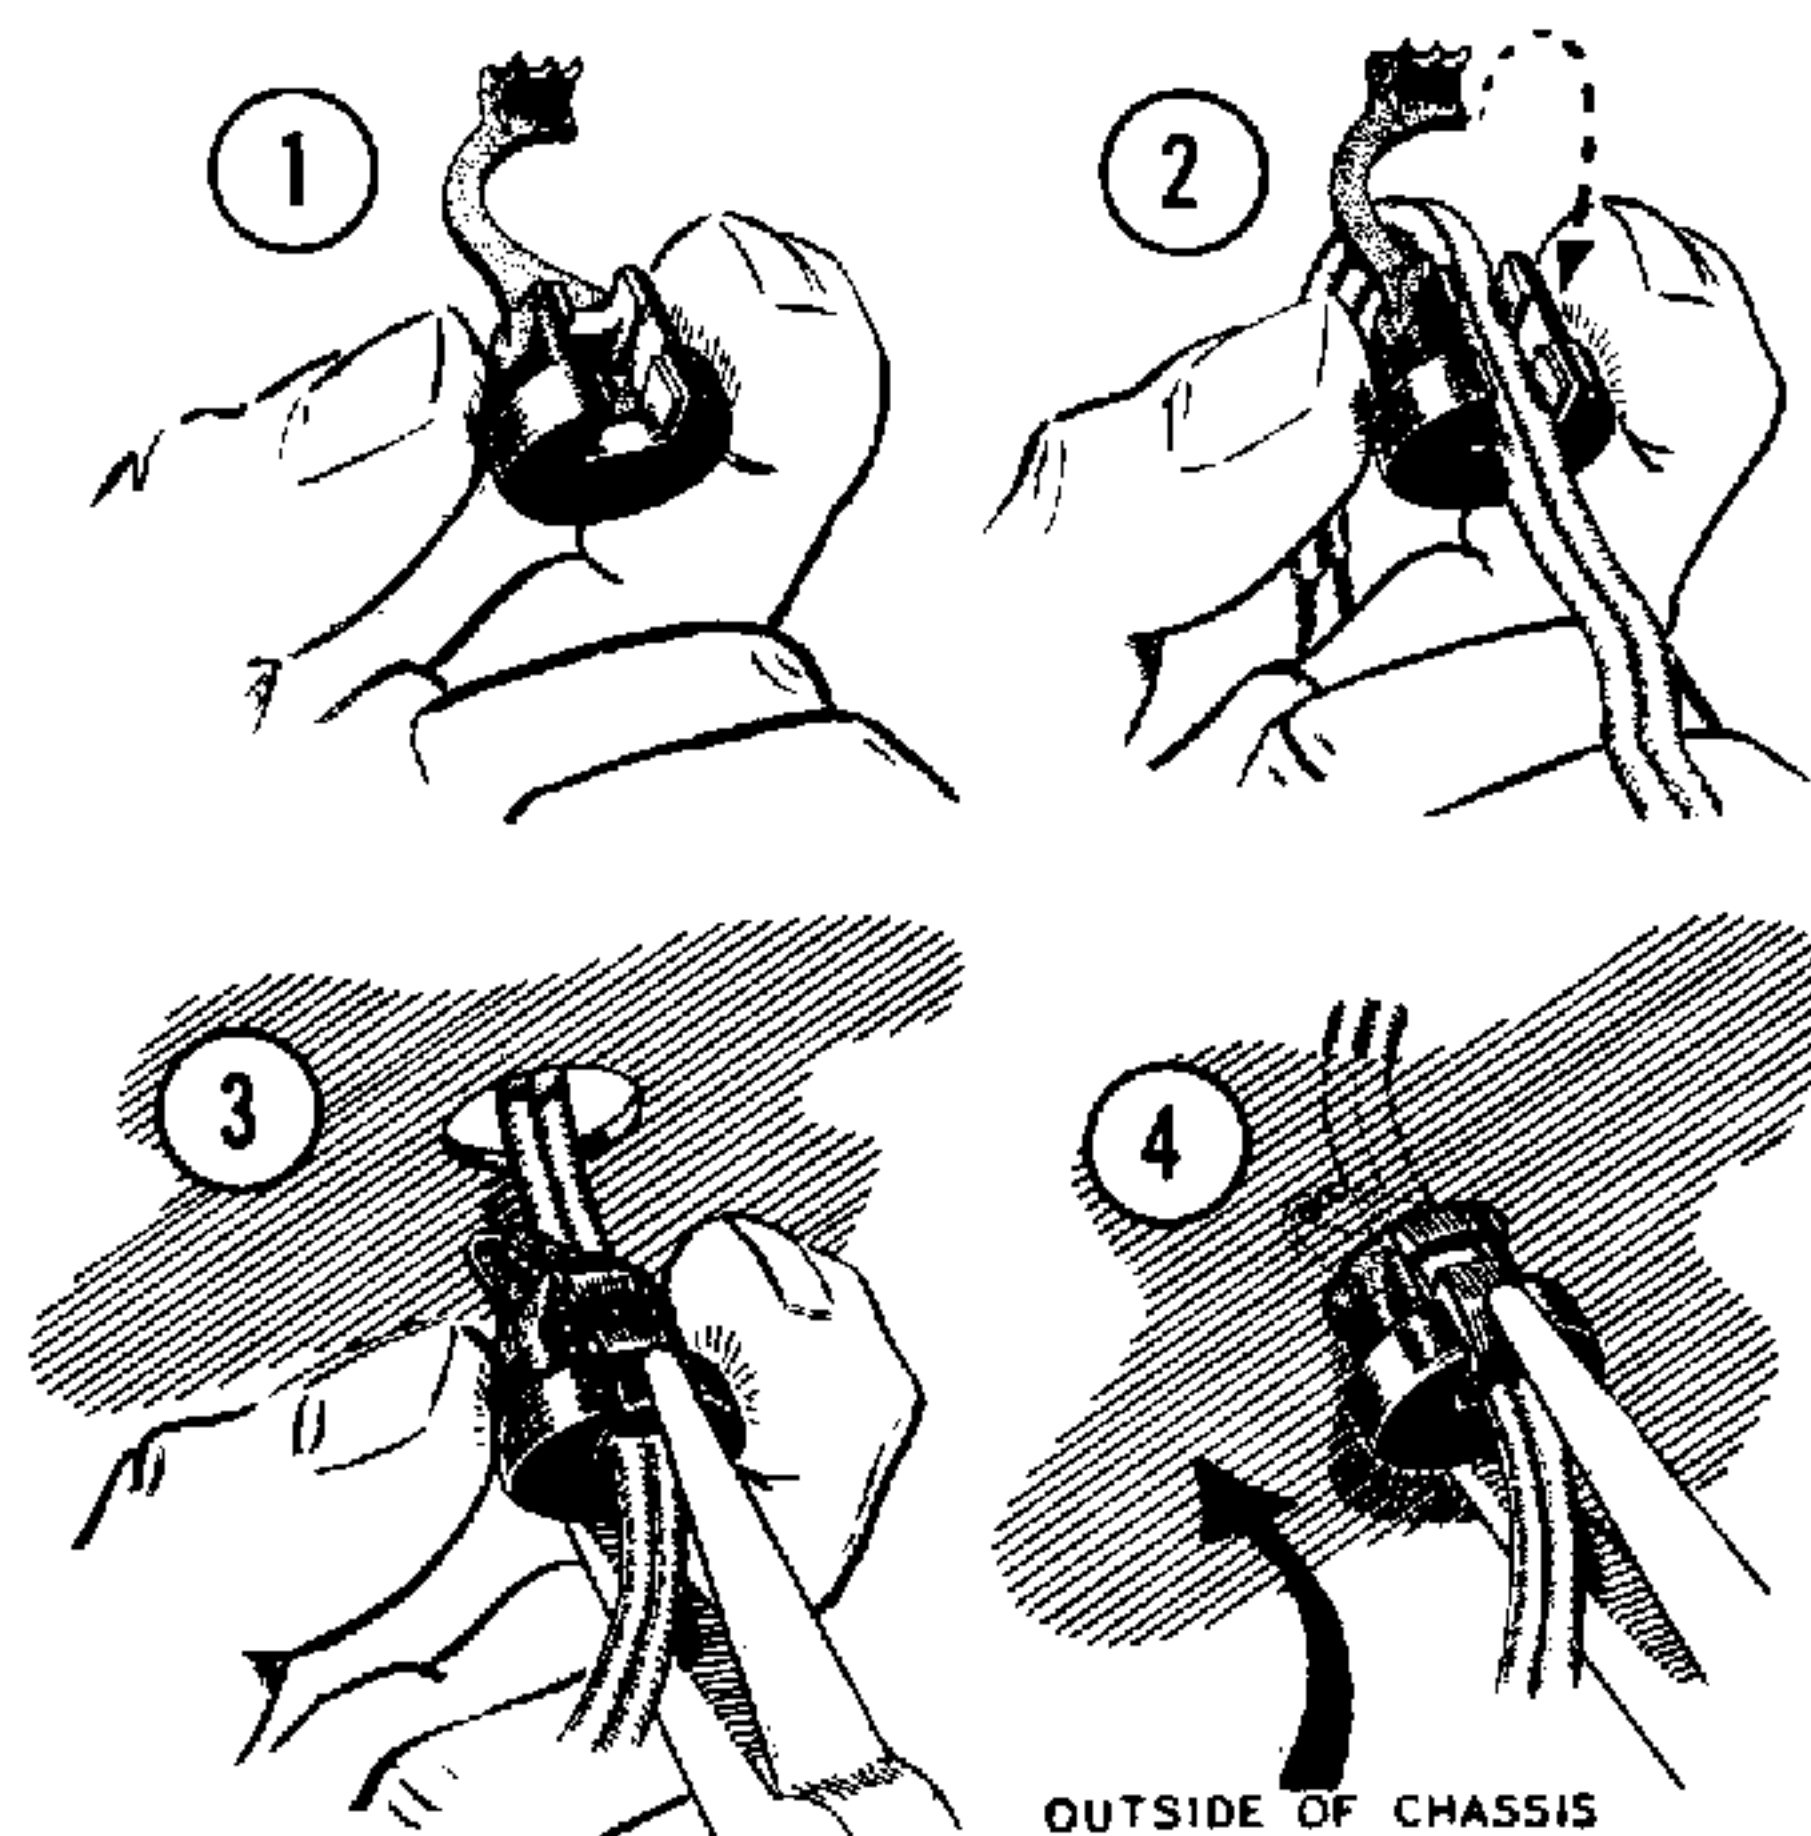

Figure 23
- (/) 9-1/2" || (J) 4"
- (✓) 5-1/4" || (J) 2-1/2" bare
- () Referring to Figure 23, mount the line cord and line cord strain relief in hole U. Leave 1-1/2" of wire inside the chassis.